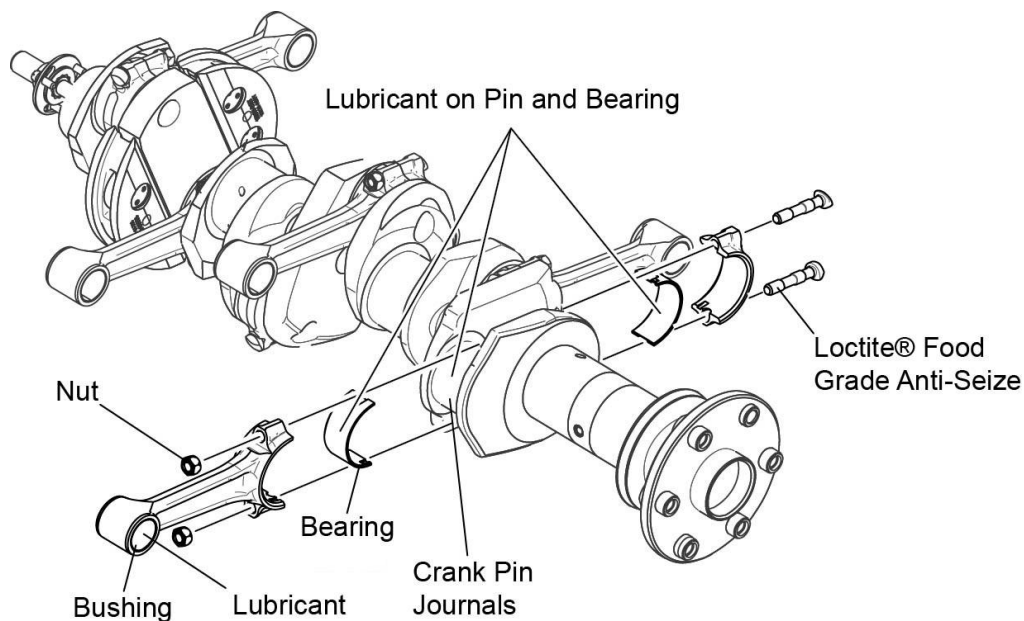

Figure 14
2. Apply specified lubricant to the connecting rod and bearing inserts (per the latest revision of Service Instruction No. SI-1059) where shown in Figure 14. Different lubricants are used on the various areas on the connecting rod and bearing surfaces.
8. Apply Loctite® Food-Grade Anti-Seize Lubricant or equivalent to the bottom two or three threads of the new connecting rod bolts (Figure 14). Wipe away excess lubricant with a clean, lint-free cloth.